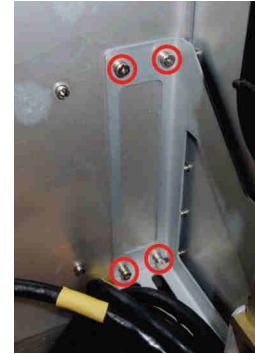
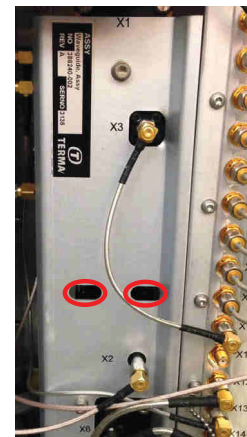

Fig. 10.38 4 screws
Fig. 10.39 Two slots
- 11 Loosen the four screws fixing the Waveguide Assy to the back - see Fig. 10.38 \(p. 156\). The two lower screws are accessible through the cable tray at the bottom - the two upper screws are accessible through the two slots on the front plate indicated in Fig. 10.39 \(p. 156\). All four screws are captive. Use tool 9.